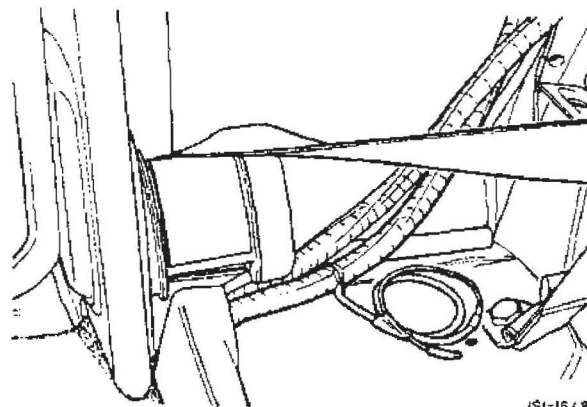

FIG 1
2. Identify the alarm antenna coiled in the harness (refer to Fig 1).